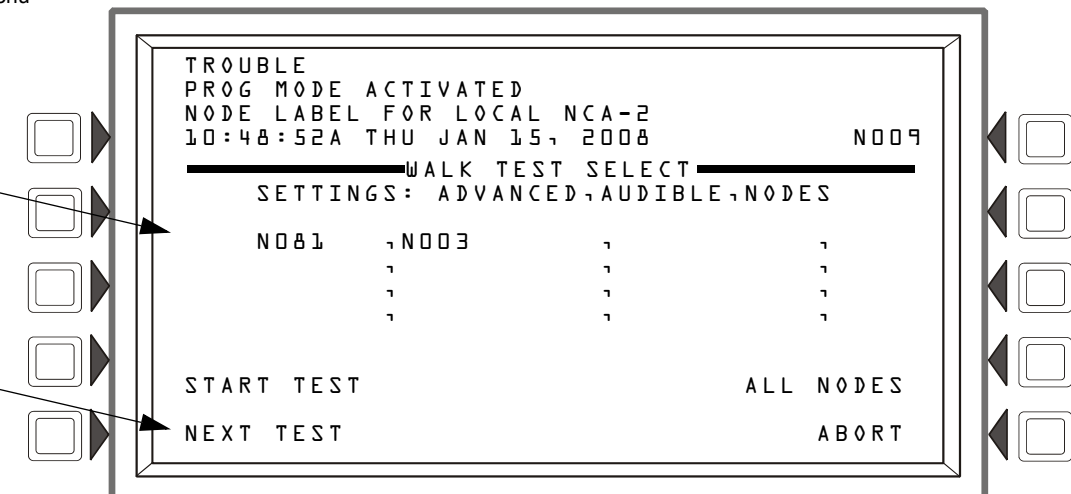

Figure 5.13 Walk Test Select Screen
- **PARAMETER** - Toggles between **NODES**, **LOOPS**, **DEVICES**, and **ZONES** (**LOOPS** and **ZONES** are for use with NFS2-3030 only). Selecting **NODES** in this field allows multiple nodes to be tested (see Figure 5.13 on page 72). If **NODE** is selected, you will have an **ALL NODES** option, allowing you to put the entire network into Walk Test mode. **NOTE:** This is limited to the nodes mapped to the NCA-2.